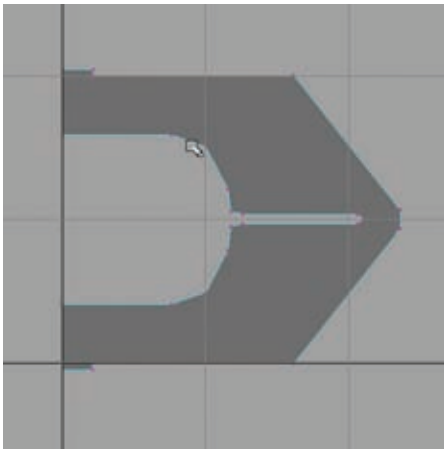

Figure 4.15
16. Repeat the process with a new tread pattern that complements the first. I went with a shape that you see in Figure 4.15.